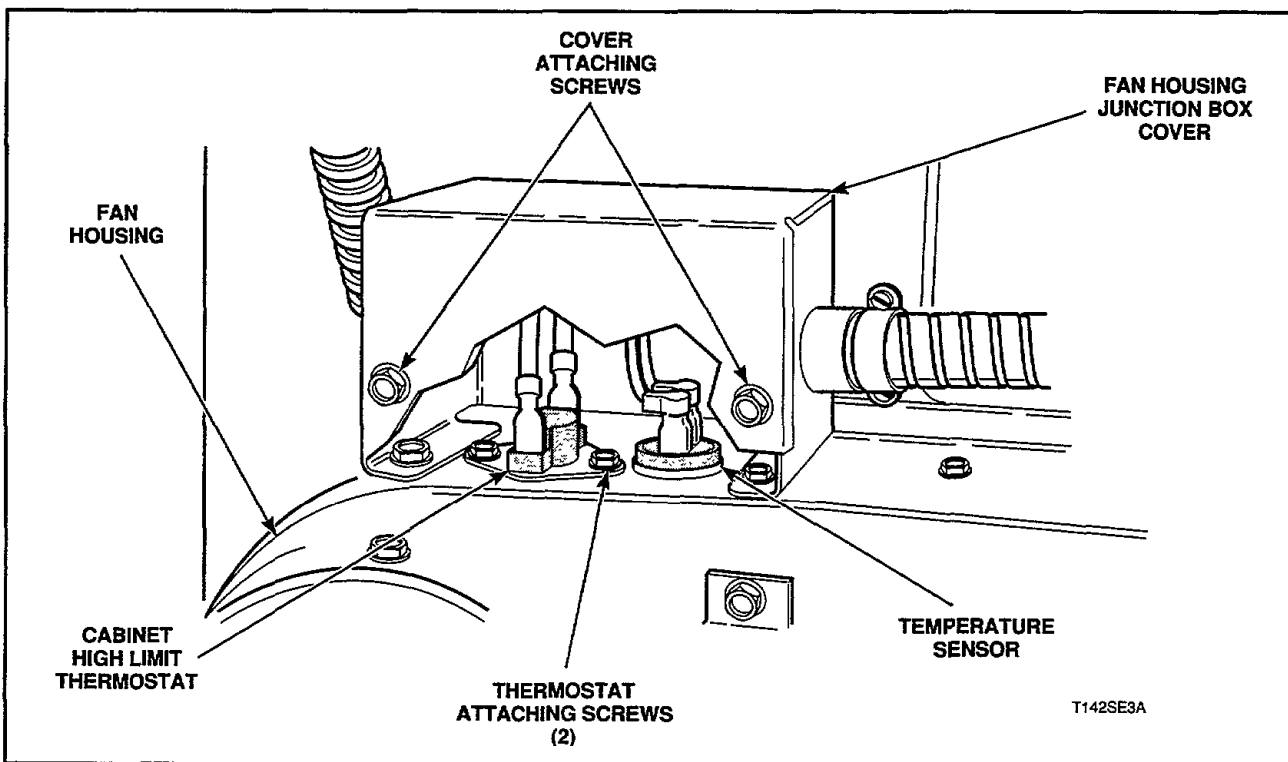

Figure 25
**27. TEMPERATURE SENSOR (Figure 25)**
**28. CABINET HIGH LIMIT THERMOSTAT (Figure 25)**